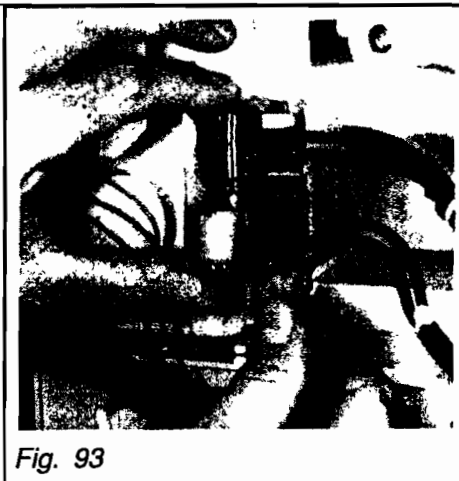

Fig. 93
- (b) Unscrew and remove small PCB retaining screw. Slide timeswitch PCB forward and disconnect flying lead plug from small timeswitch printed circuit board. Fig.93.